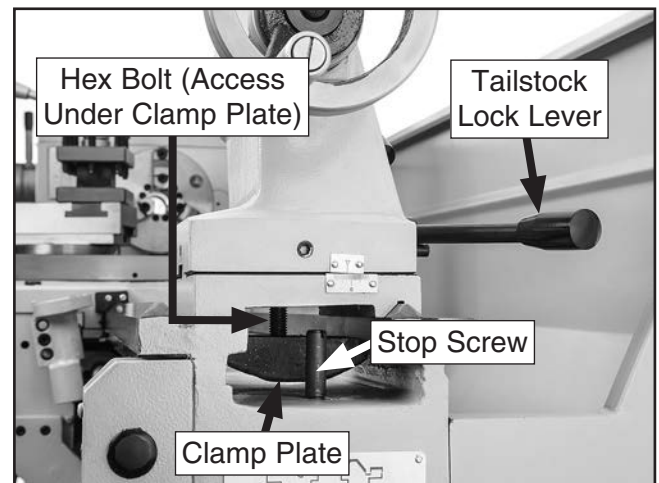

Figure 131. Tailstock lock adjustment components.
1. Unthread stop screw (see **Figure 131**), and carefully slide tailstock from lathe.